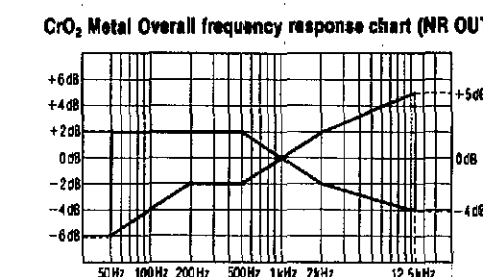

Fig. 14
6. Repeat steps 4 and 5 above for CrO2 blank test tape (QZZCRX) and Metal blank test tape (QZZCRZ), in these cases raising the upper end of the test signal frequency range to 12.5kHz. Verify that the signal levels at the test frequencies fall in the ranges specified in Fig. 14 with respect to the reference signal level.